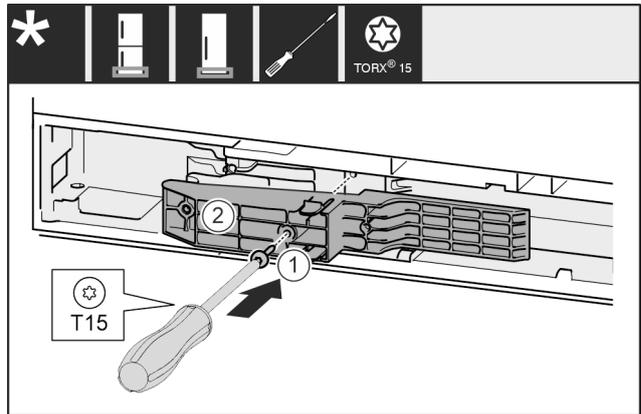

Fig. 51 \*
- ▶ 将把手侧的适配件 Fig. 51 (1)插入凹槽。\*
- ▶ 将螺钉 Fig. 51 (2)用螺丝刀拧紧。\*